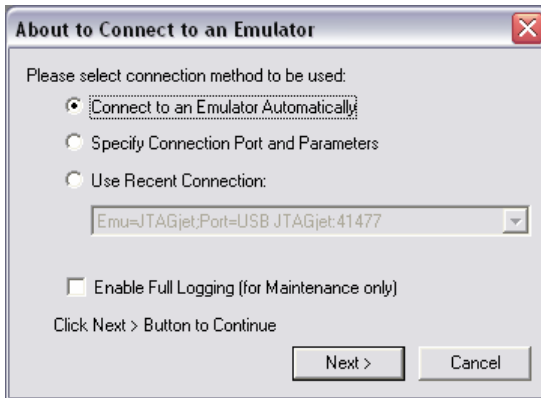

FIGURE 5 Choosing the emulator-PC communication port.
6. Select the communication port through which the emulator is connected to your computer (Figure 5).